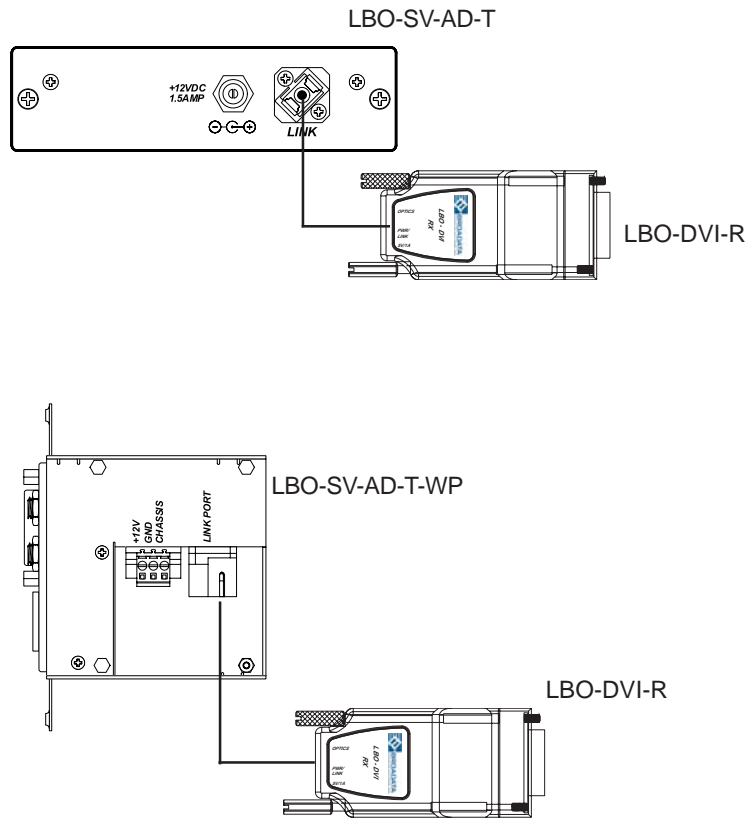

Figure 2-5
3. Connect the fiber from one unit to the other connecting the near end LBO-SV/DH-T unit's optical port to the far end of the LBO-DVI-R unit's optical RX port as illustrated in Figure 2-5. LBO-SV/DH-T is compatible with any LBO receivers.
2. Terminated fiber with SC optical connector to be directly plugged into the SC connector port of the LBO-SV-AD-T-WP units (see Figure 2-5).